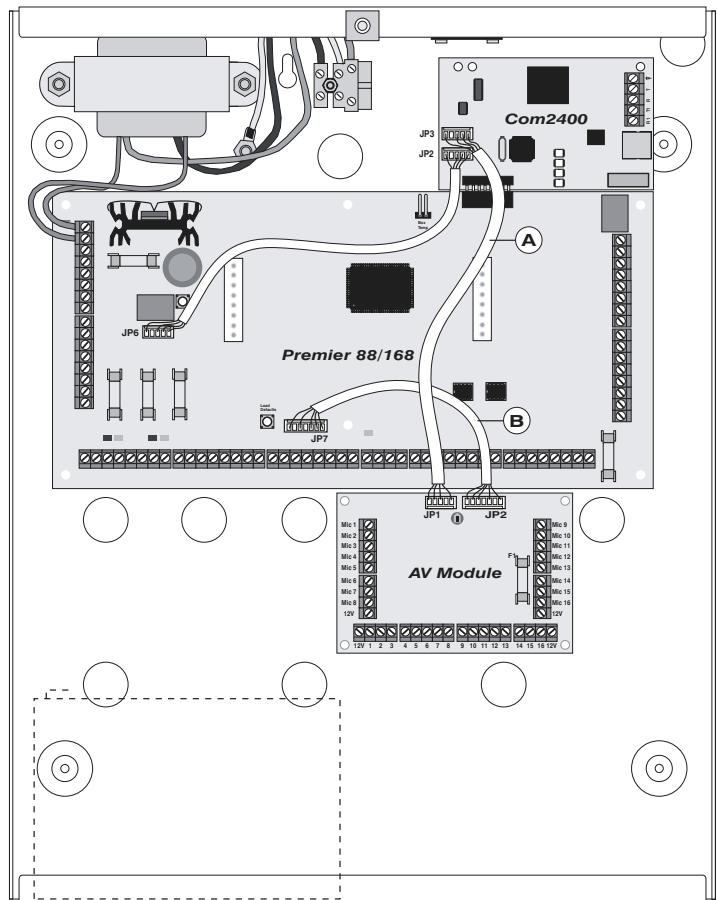

Figure 2. AV Module Installed in Control Panel
- 1) Fix the AV Module (see Figure 2) to the base of the control panel using four self adhesive feet supplied with the unit.
- 2) Plug one end of the audio lead "A" (see Figure 2) onto JP1 of the AV Module and the other end onto JP3 of the Com2400.
- 3) Plug one end of the control lead "B" (see Figure 2) onto JP2 of the AV Module and the other end onto JP7 of the Premier 88/168.